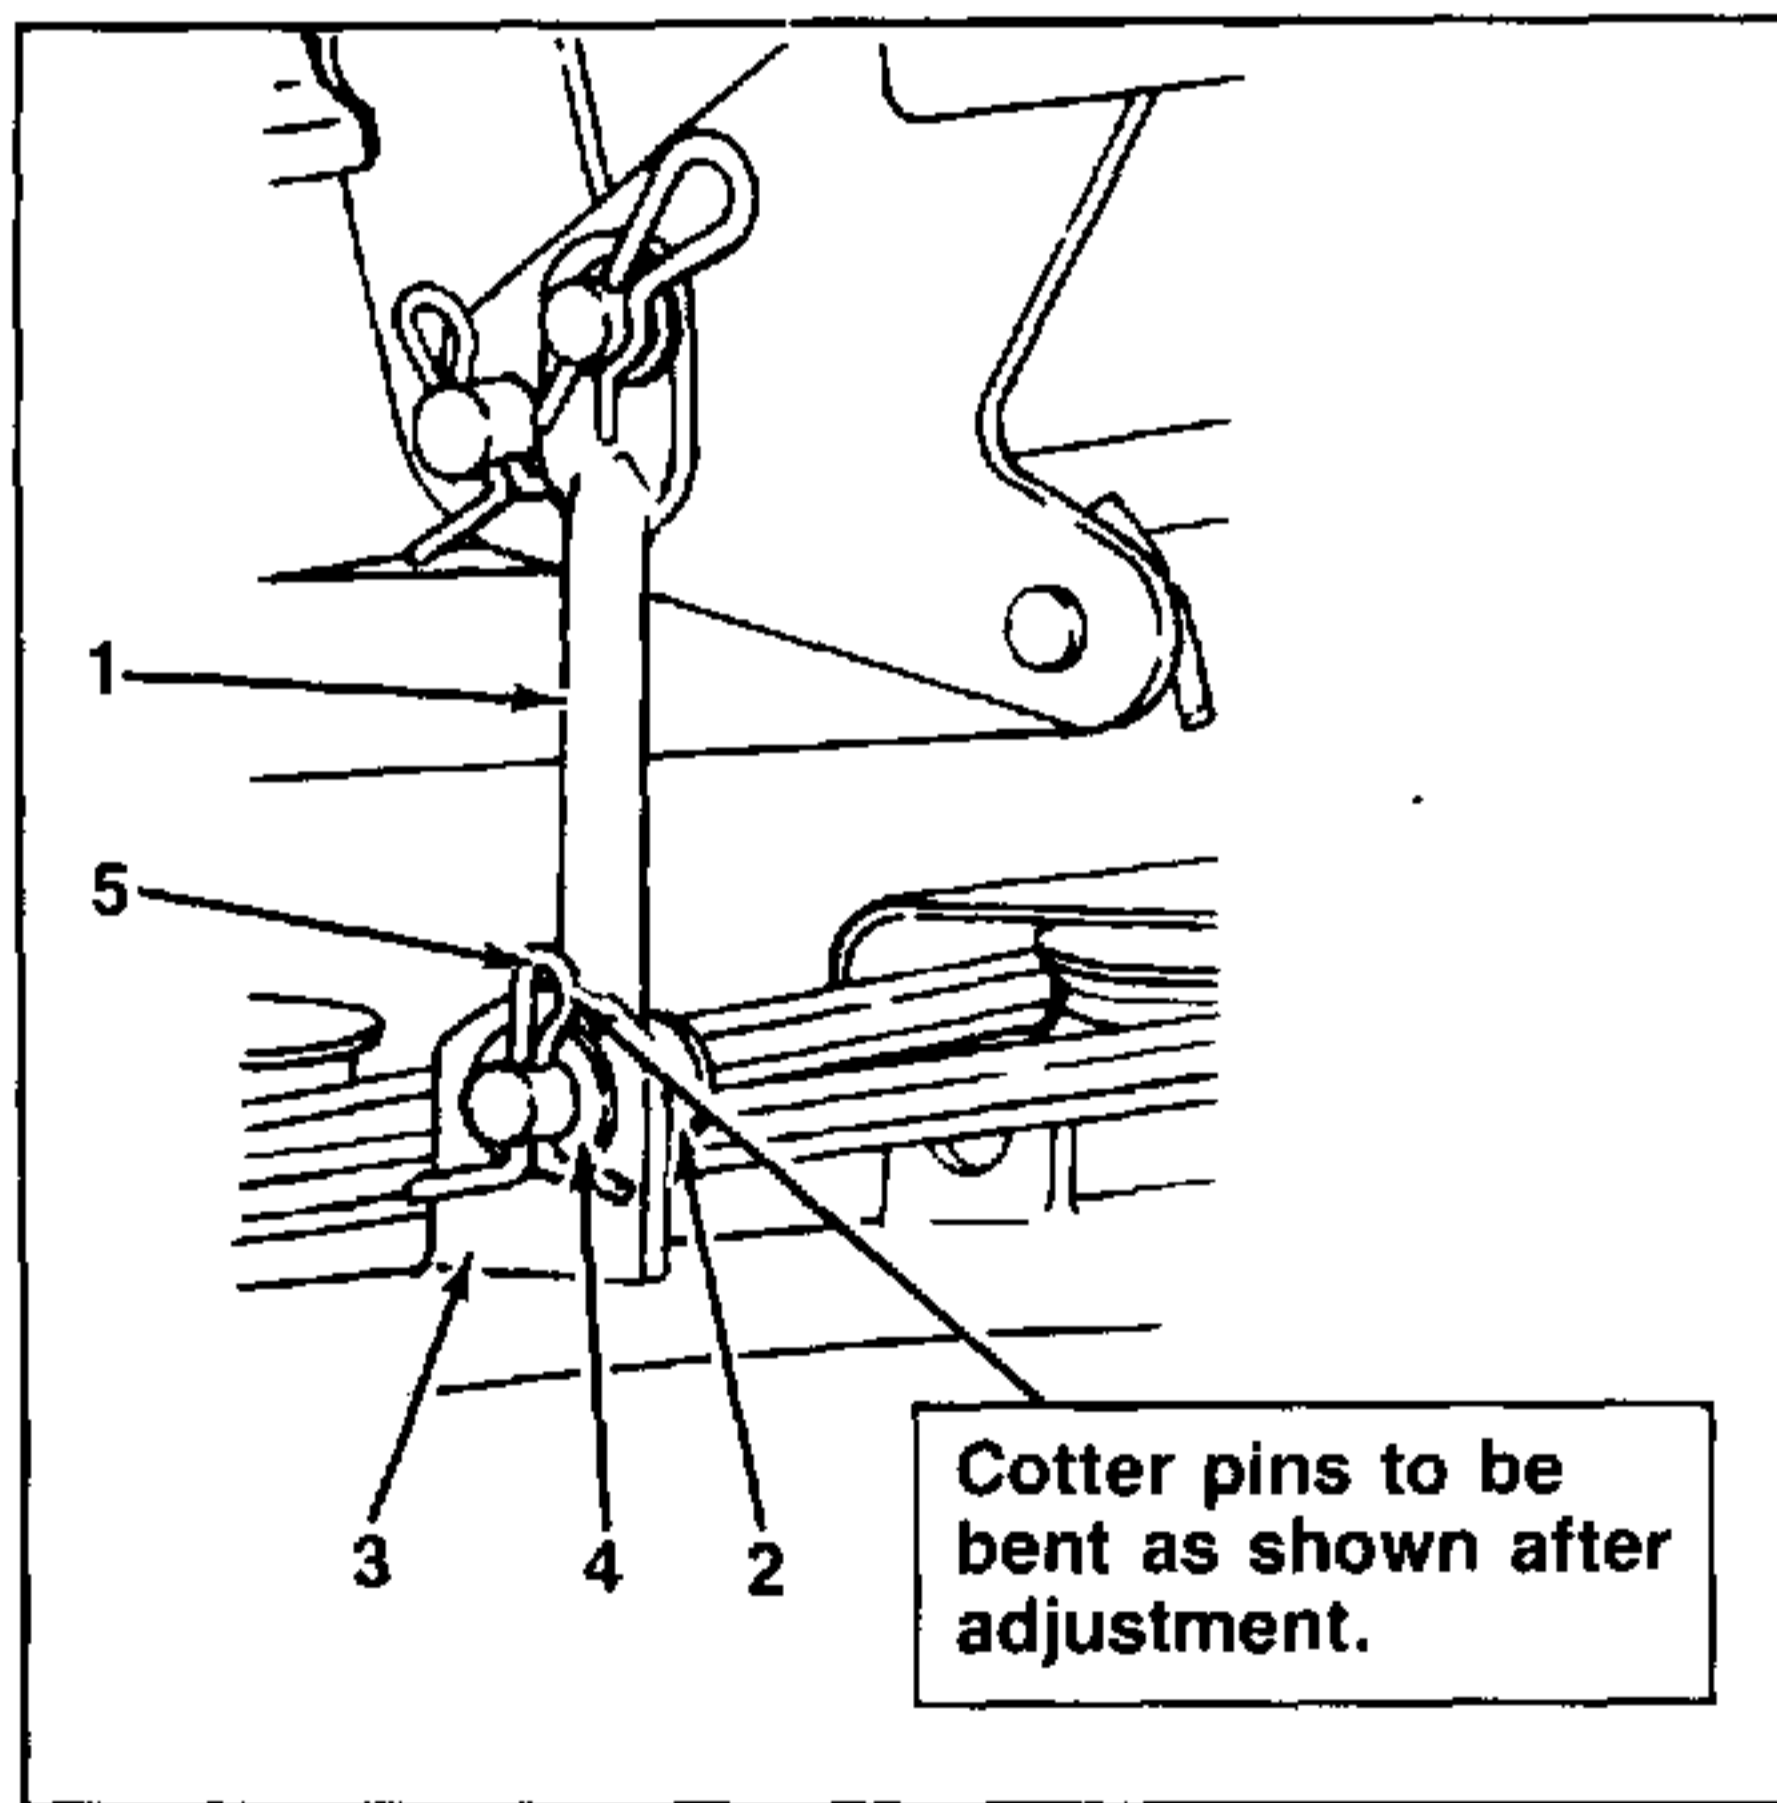

FIGURE 8.
10. Refer to figure 8 and secure the links to the front deck brackets with flat washers and cotter pins.